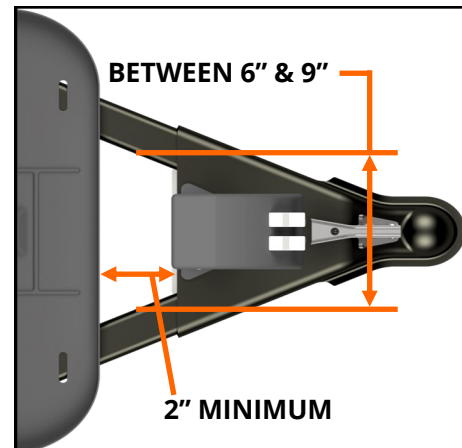

FIGURE A2: View above trailer A-frame and coupler.
- The area behind the coupler and between the frame rails must be open with at least 2" of open space in front of the next object, such as the propane tank tray. The mounting location behind the coupler requires the distance between the frame rails to be between 6" and 9", **see Figure A2.**